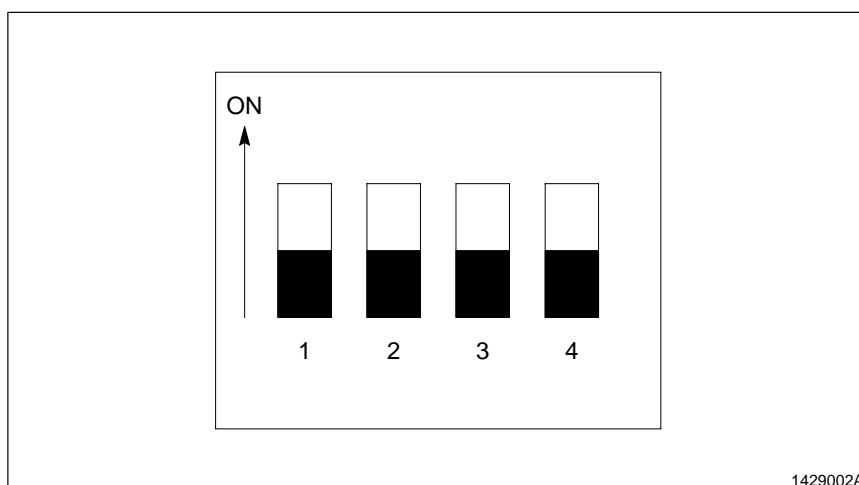

Fig. 2 Gun Head Dip Switch Settings
| Gun Head Dip Switches (item 9) | See Figure 2. The gun head dip switches are factory-set to the OFF position. |